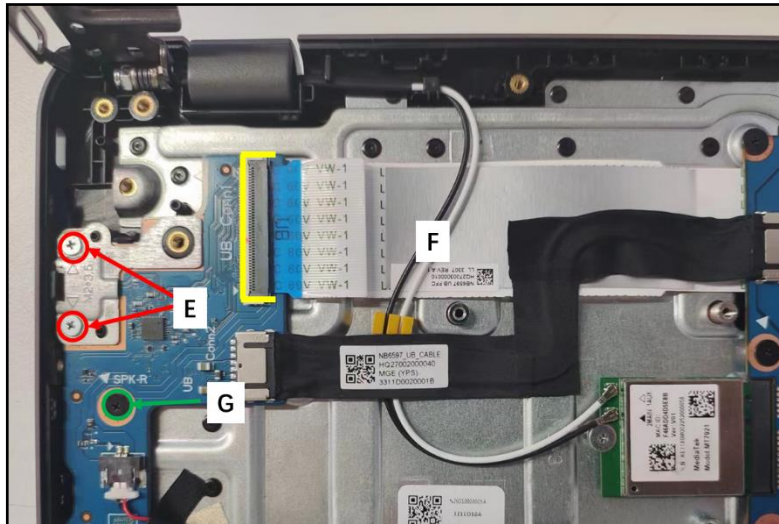

Figure 3-98. Replacing the USB Board
4. Install two (2) screws (E) and one screw (G) to secure the USB board and I/O bracket in place (Figure 3-98).
5. Connect the USB board H FFC (F) to the mainboard and USB board connectors (Figure 3-98).